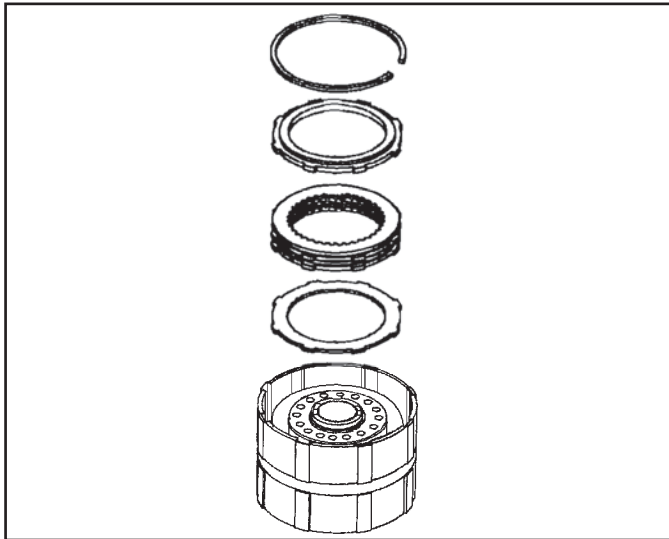

Figure 101
1. Flip the 2/3 clutch drum housing over and remove the backing plate snap ring, the backing plate, the single sided clutch plates and clutch apply plate (See Figure 101).